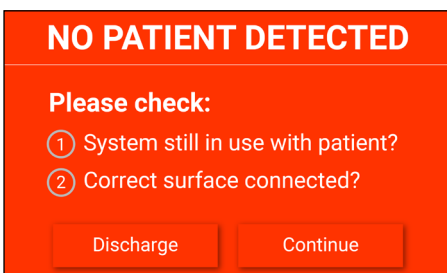

Figure 23. Patient not detected alert screen
1. The Guardian System will alert the user if after a period of time a patient is not detected on the support surface. An auditory alert will occur for three (3) minutes.
2. Follow the instructions on the screen to address the alert. (Fig. 23) Assess for proper placement of the support surface.